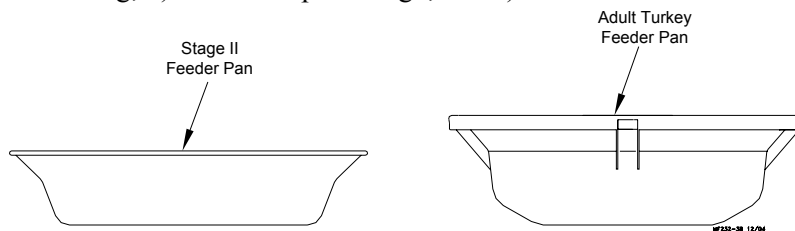

Figure 18. Feeder Pans
2. Determine which Feeder Pan (Adult Turkey or Stage II) is to be installed, see **figure 18**. Refer to appropriate assembly section.